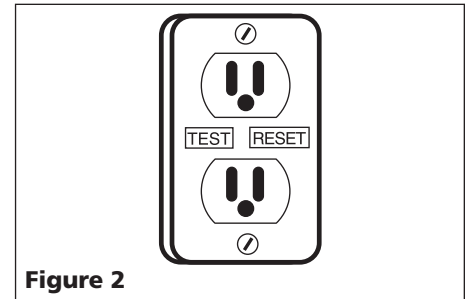

Figure 2
- A ground fault circuit interrupter (GFCI) is required (see Figure 2).